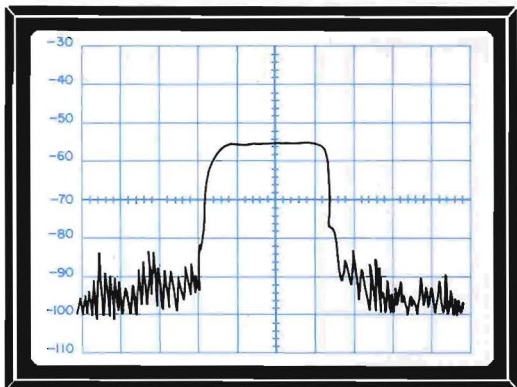
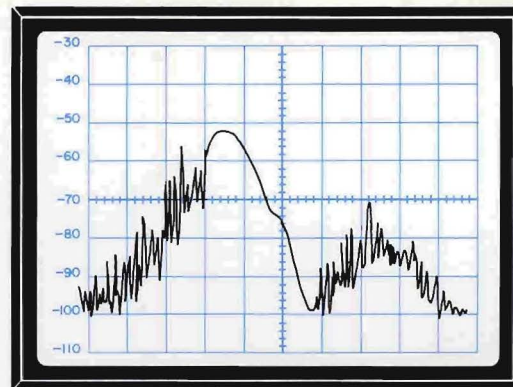

Figure 4-8 Typical Response Curve (AM)
Figure 4-9 Typical Response Curve (FM)
4. Adjust FM/AM-1500 DEV/VERT Control (39) as required for proper display of UUT characteristics on FM/AM-1500 oscilloscope. (See Figure 4-8 and Figure 4-9.)